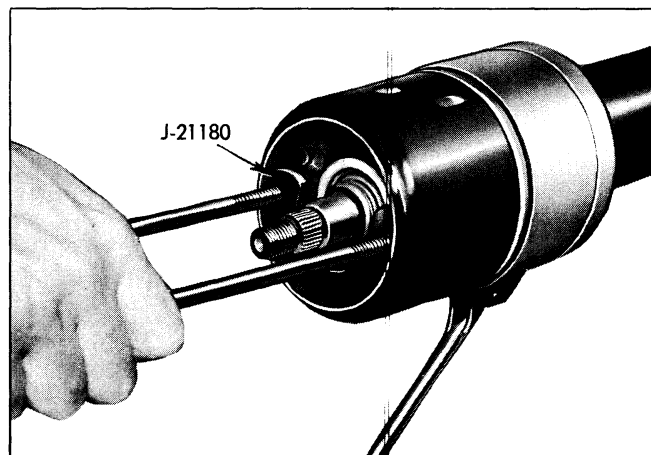

Fig. 9-25 Removing Cover
10. Remove turn signal cover with tool J-21180 (Fig. 9-25).